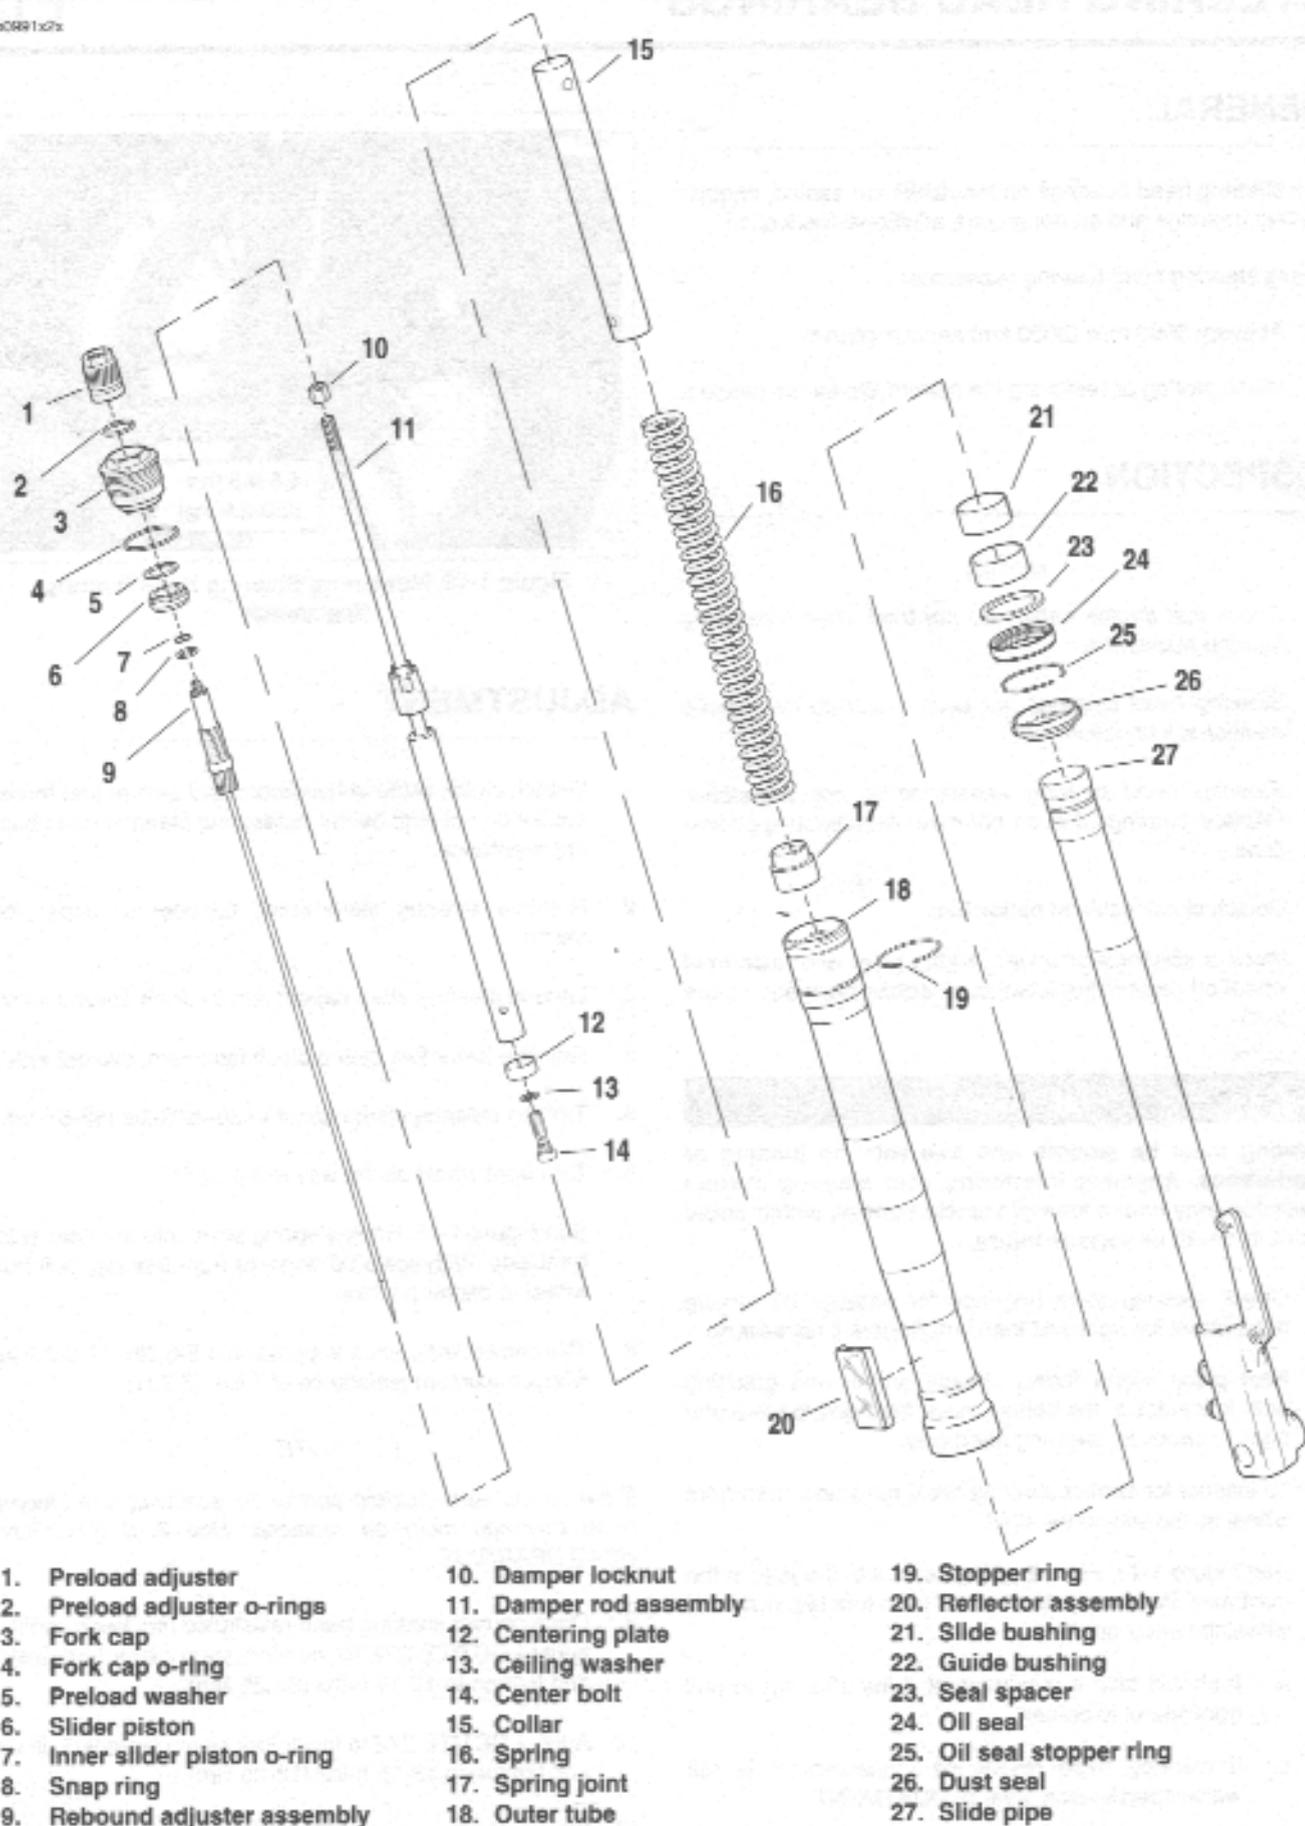

Figure 2-42. Front Fork Assembly
- See Figure 2-42. Over drain pan, remove spring (15), spring collar (16), and drain fork oil.
- See Figure 2-42. Install spring (16), and spring collar (15).
- See Figure 2-42. Install preload washer (5) and slider piston (6).